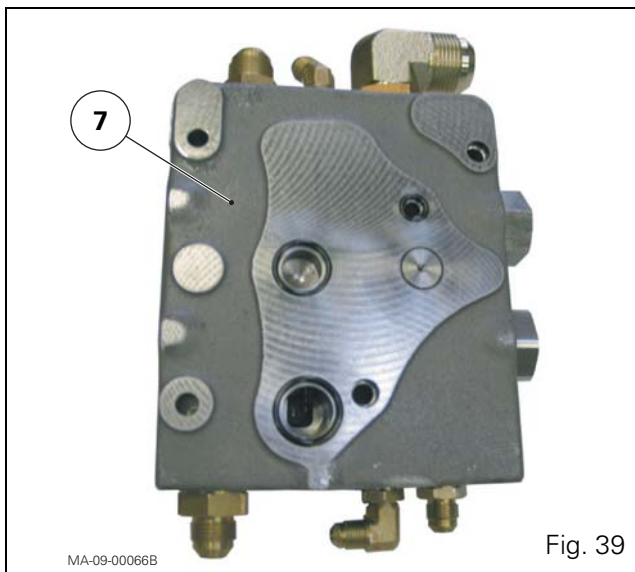

Fig. 39
The single priority block (7) (Fig. 39), fitted to the right-hand hydraulic cover plate (8) (Fig. 42), is fitted to 40 kph tractors without trailer braking.